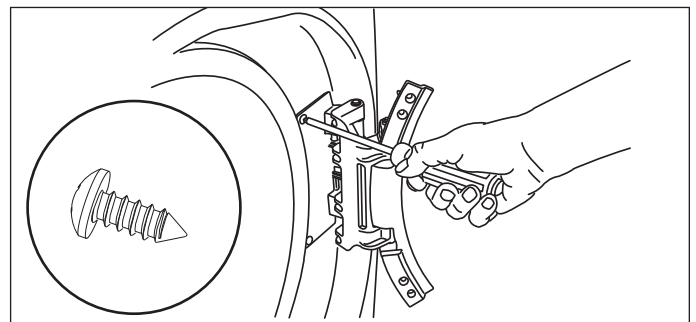

Figure 2-32.
6. Install 2 short, coarse-thread, panhead screws through hinge plate. (See Figure 2-32)